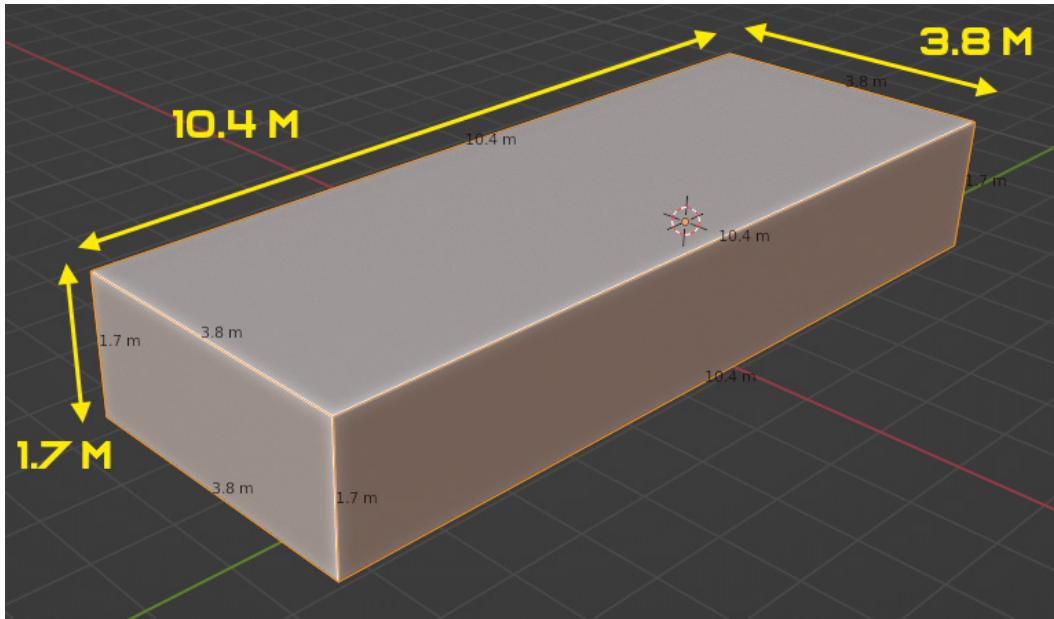

Figure 7.2 – Hull dimensions
2. Scale the default cube to match the dimensions in *Figure 7.2*: